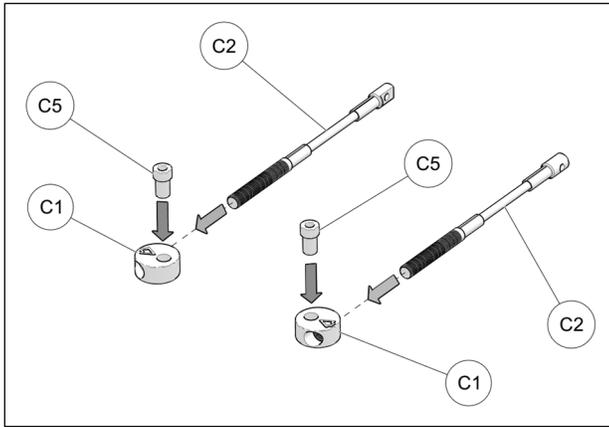

Fig. 14
9. Assemble steering limiter cables (C2), aluminum disks (C1) and step spacers (C5) together as shown on Fig. 14